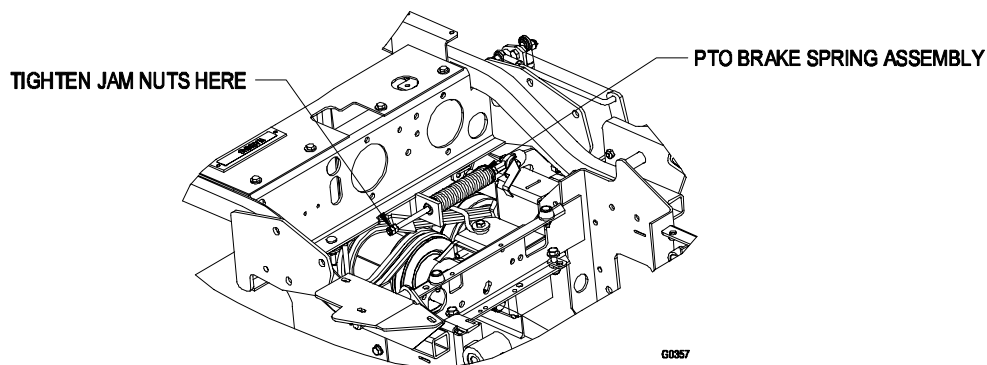

FIGURE 19
- b) Locate the brake spring and thread the two jam nuts out to the end of the brake spring rod. See Figure 19.